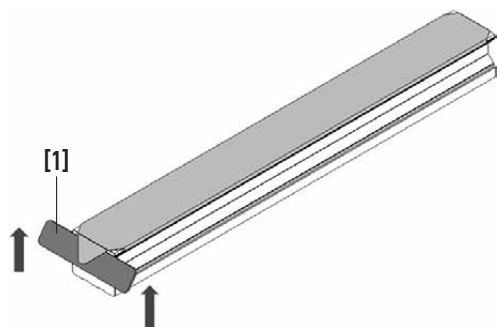

Fig. 5.17 Removal of cover strip
- Use the removing tool [1] as shown in Fig. 5.17 to lift the cover strip from below at the bent end of the strip at the front side of the profile rail. Then carefully peel it off over the entire length, without bending it.